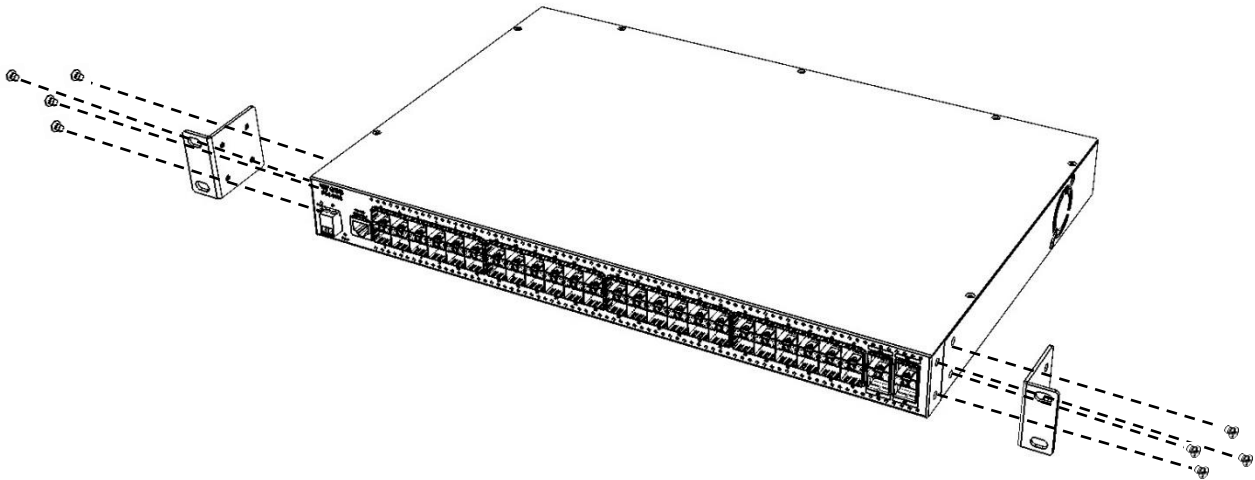

Figure 2-2. Remove brackets for the Managed Switch Wall-mounting
1.1. Unscrew the screws from each bracket at both sides of the switch. (See Figure 2-2)